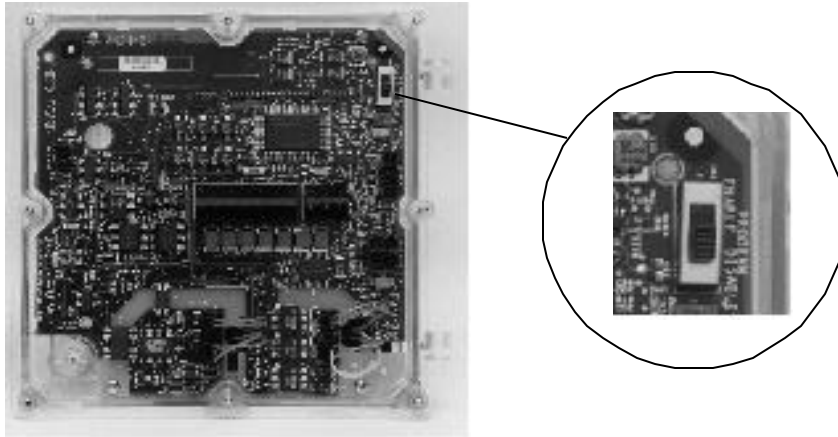

Figure 3.9 Programming Switch Location
- 5 On the exposed index board, set the programming switch (see Figure 3.9) to *ENABLE* position.